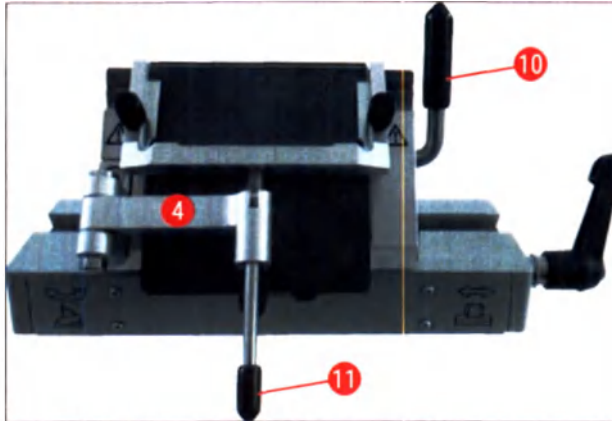

Fig. 32
4. Rotate clamping lever (→ Fig. 32-10) clockwise to clamp (→ "Fig. 32").